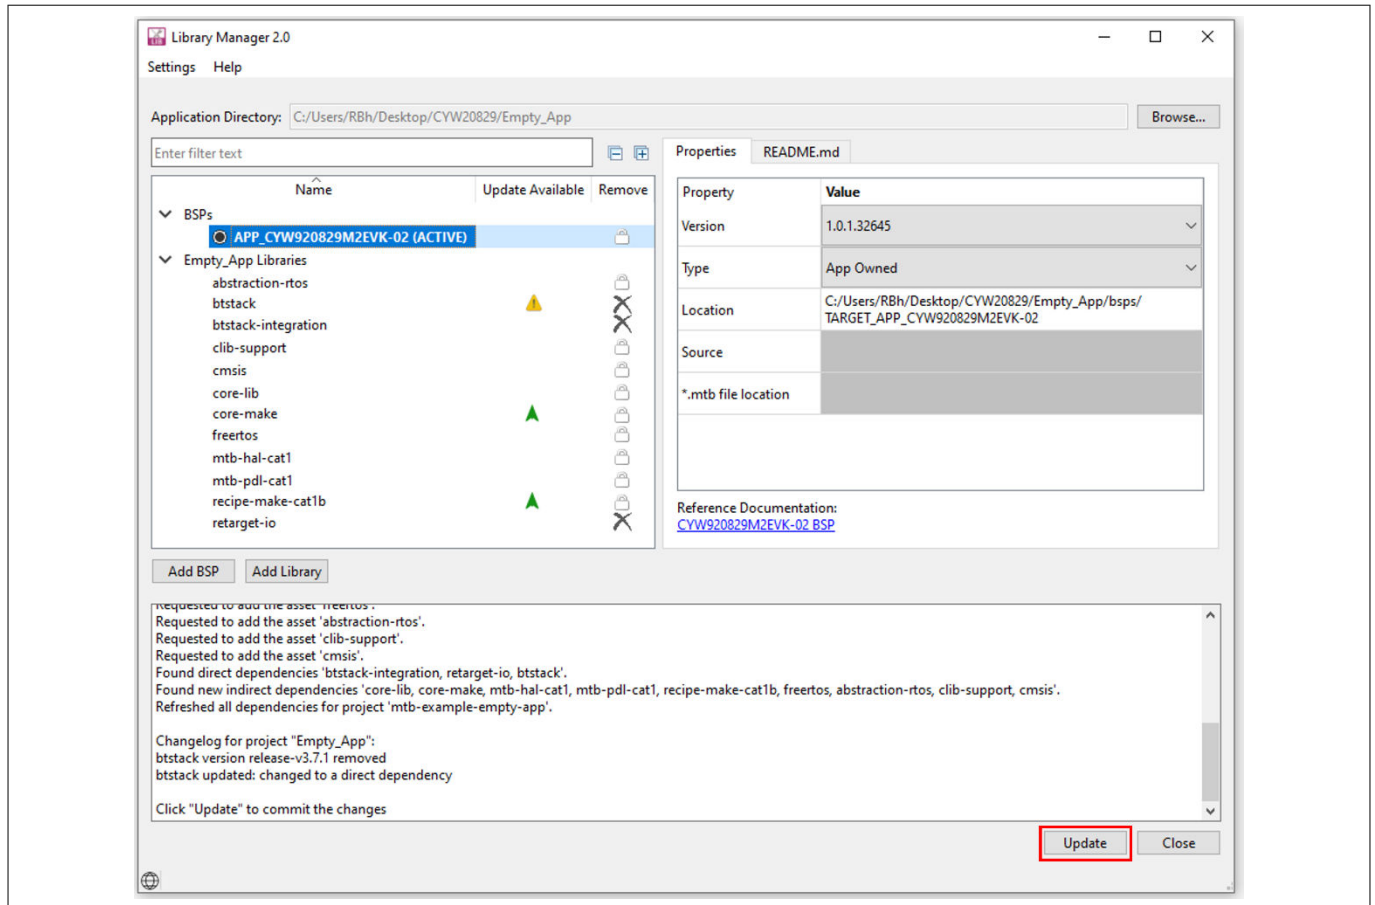

Figure 18 Libraries for Bluetooth® LE Find Me code example
- You have selected all the required libraries. To add them to the project, click **OK** and then **Update**. Figure 18 shows all the libraries selected and their dependency libraries. The files necessary to use the retarget-io middleware are added in the *mtb_shared > retarget_io* folder, and the *.mtb* file is added to the *deps* folder. Similarly, you can find other libraries under the respective folders in the *mtb_shared* folder